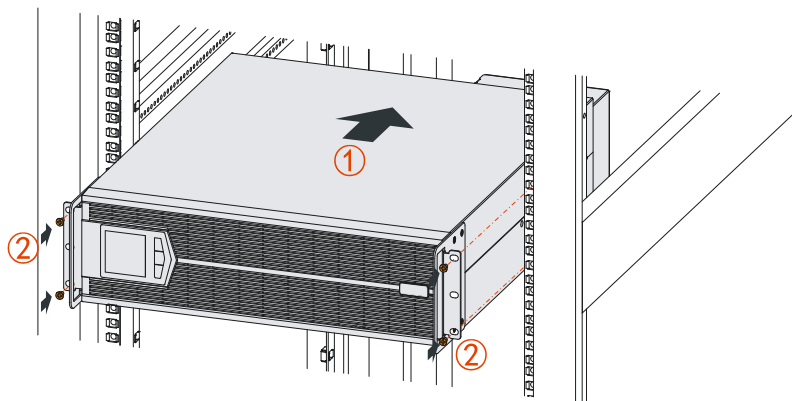

Figure3-10 Fasten the UPS
Step 2 Push the UPS into the cabinet, and fasten it by screws, as shown in Figure3-10.